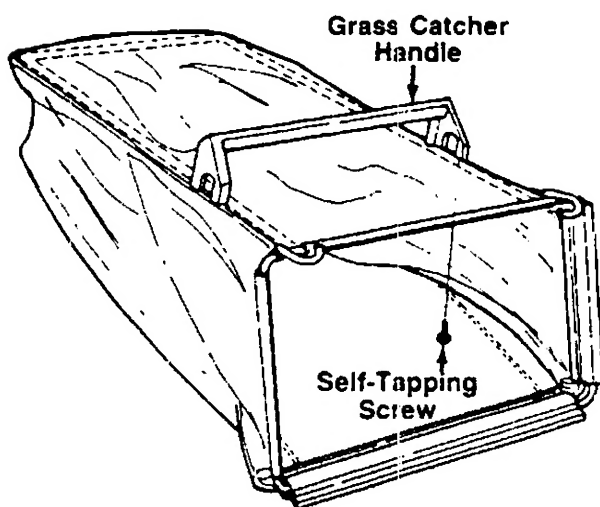

FIGURE 14.
6. Place the grass catcher handle in position on top of the grass bag and frame as shown in figure 14. Secure with four self-tapping screws.